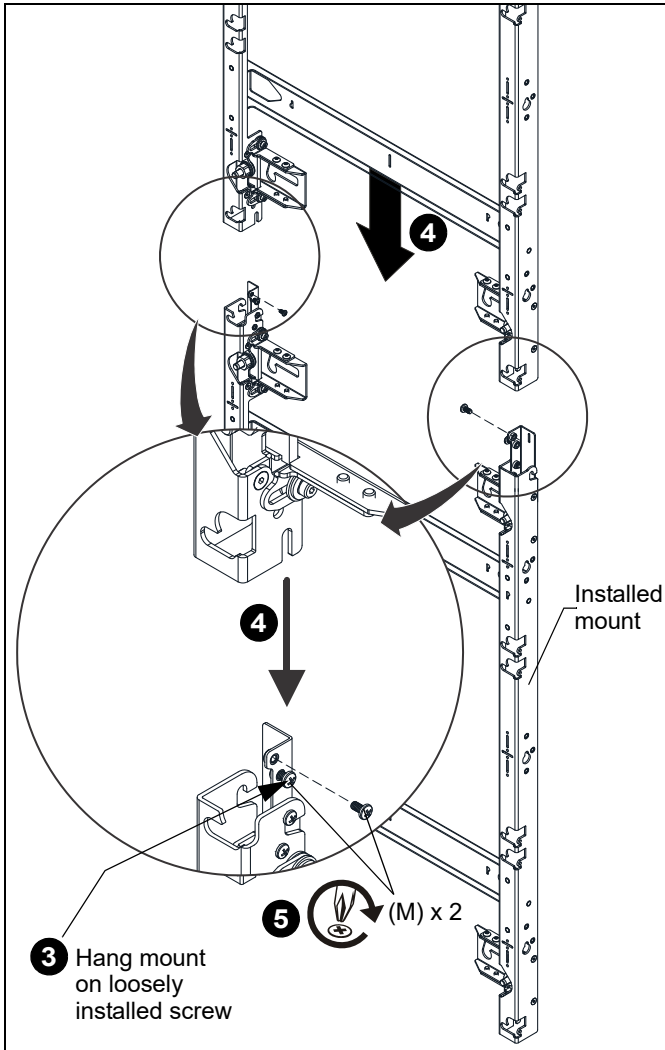

Figure 18
3. Make sure the 1/4-20 x 1/2" Phillips head screw (M) is already loosely installed in the vertical connector (N) on both sides of the mount. (See Figure 18)
5. Install two 1/4-20 x 1/2" Phillips head screws (M) into upper hole on both vertical connectors, and tighten all screws. (See Figure 18)